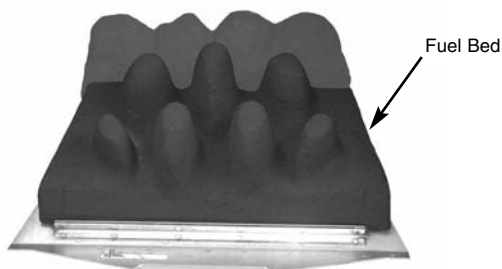

Fig. 14
2. Place the main fuel bed on to the middle section of the metal burner tray. It is important that the front edge of the fuel bed is located behind the burner strip (Fig. 14).